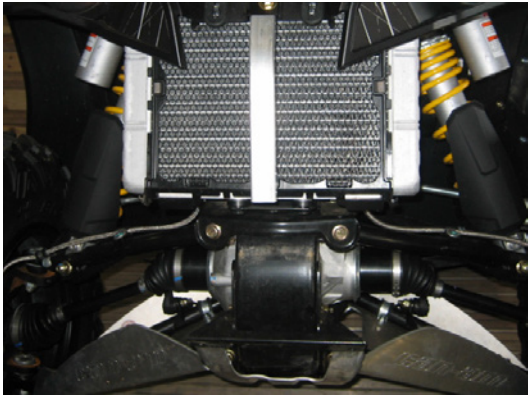

Figure 14
- Remove any underbody armor and then remove the two (2) bolts that hold the aluminum bumper onto the ATV. Figure 14 shows all brackets and bumper removed.